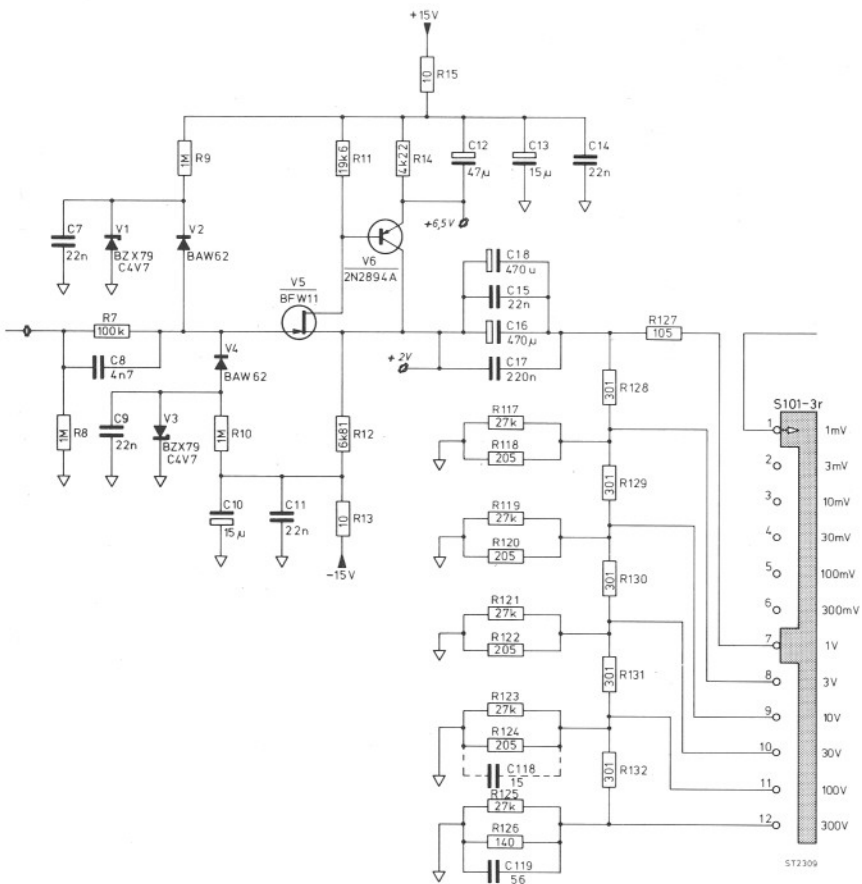

Fig. 7. Impedance transformation circuit
**Impedance transformation circuit, fig. 7**